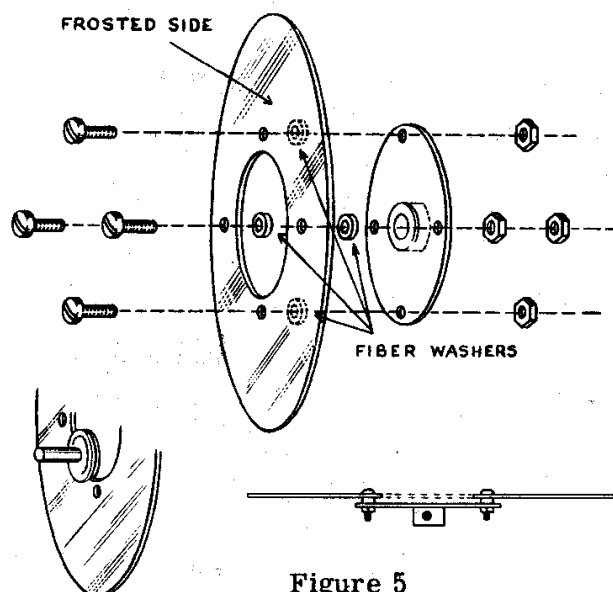

Figure 5
- I (✓) Assemble the tuning dial as shown in Figure 5, using the four semi-flathead 3-48 screws.
X (✓) By tilting panel slightly forward after it is slid over the two switch shafts, and at the same time holding the friction drive shaft toward the rear, it will be possible to make the split washers of the friction drive wheels engage the plastic dial disk. See Figure 5. If the dial was placed too far from the chassis originally, it may be necessary to move it back slightly.